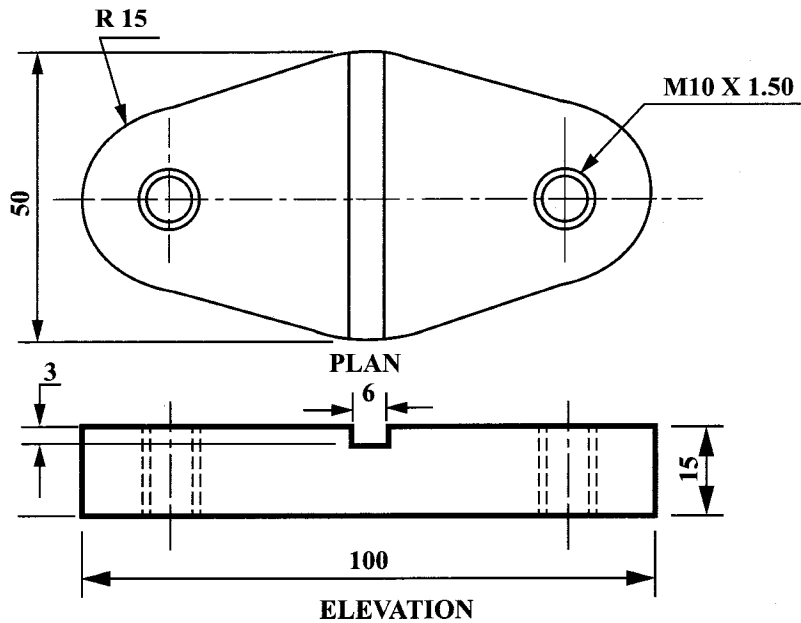

Figure 3. Plate cover
3. Figure 3 shows the elevation and plan of a plate cover to be completed in the workshop.